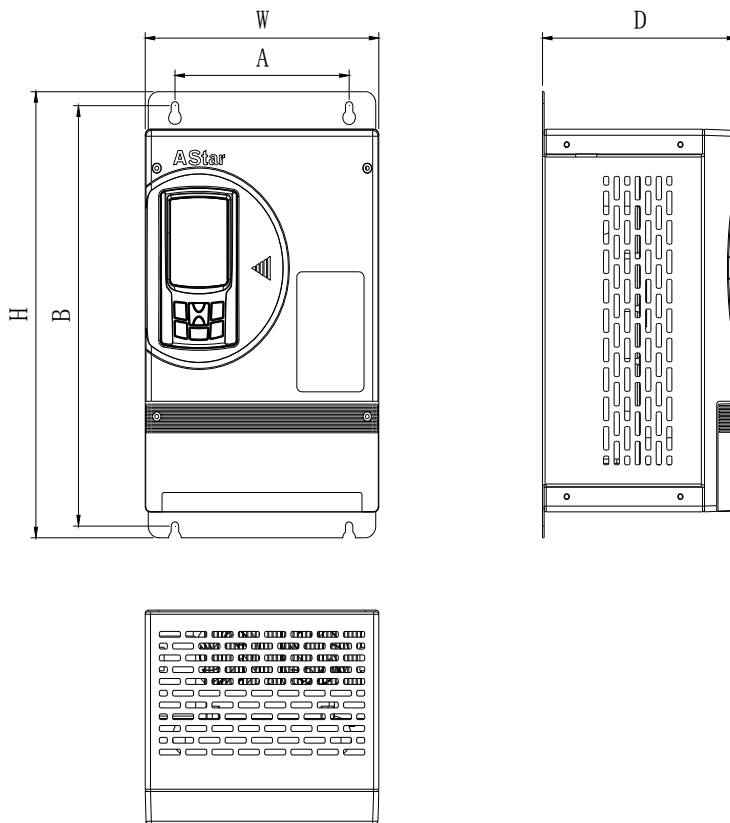

Fig 2.1 Inverter installation dimension
Installation dimensions and weight of inverter, see Fig 2.1 and Table 2.3.
- 1) Secure 4 installing holes on inverter, refer to Fig. 2.1 “AS320 series inverter installation dimension and weight” and mount top upper screws first. Note, do not tighten screws and leave a few millimeter gap.